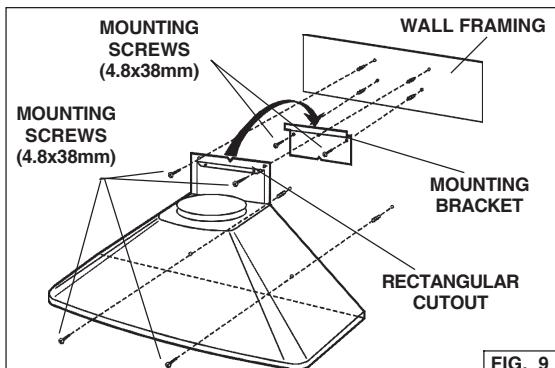

FIG. 9
3. Align the rectangular opening on the back of the hood with the wall-mounting bracket. Gently lower the hood until it securely engages the bracket. Fig. 9.
4. Level the hood and secure with (4) mounting screws. Use drywall anchors provided if wall studs or framing are not available. Fig. 9.